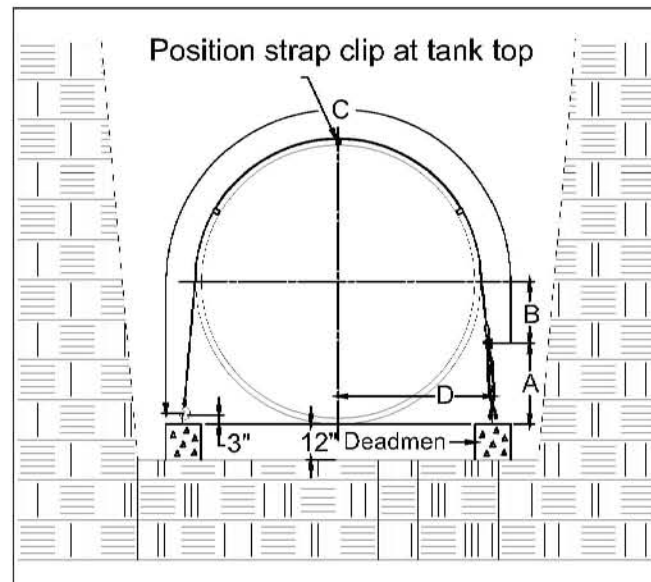

FIGURE 8-1
8.2.2.1. When installing any size tank, and when using Xerxes' D-ring/hook anchor straps and Xerxes' prefabricated deadmen, the deadmen are to be placed so that the top of the deadmen is even with the bottom of the tank. See FIGURE 8-1 and TABLE 8-1 for anchor-point dimensions.
Anchoring Dimensions for FIGURE 8-1
8.3.5. Locate the anchor points as shown in FIGURE 8-1 or 8-2 (whichever is applicable) and TABLE 8-1 or 8-2 (whichever is applicable).
8.5.2. For placement of Xerxes prefabricated deadmen, see FIGURE 8-1 or 8-2 (whichever is applicable) and the Xerxes supplement, Prefabricated Deadmen Installation Instructions.